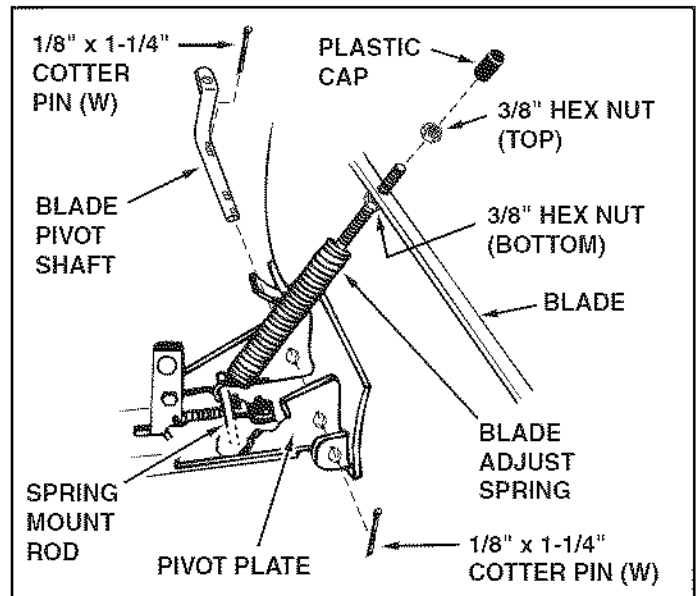

FIGURE 19 (Right Hand Side View)
### STEP 19: (SEE FIGURE 19)
- The tension of the blade adjust spring may be altered to permit the blade to tilt forward to bypass solid obstructions. To change the spring tension, adjust the nuts at upper end of the spring bolt. Turn the nuts counterclockwise to relieve tension and clockwise to increase tension. Refer to figure 19 on page 12.